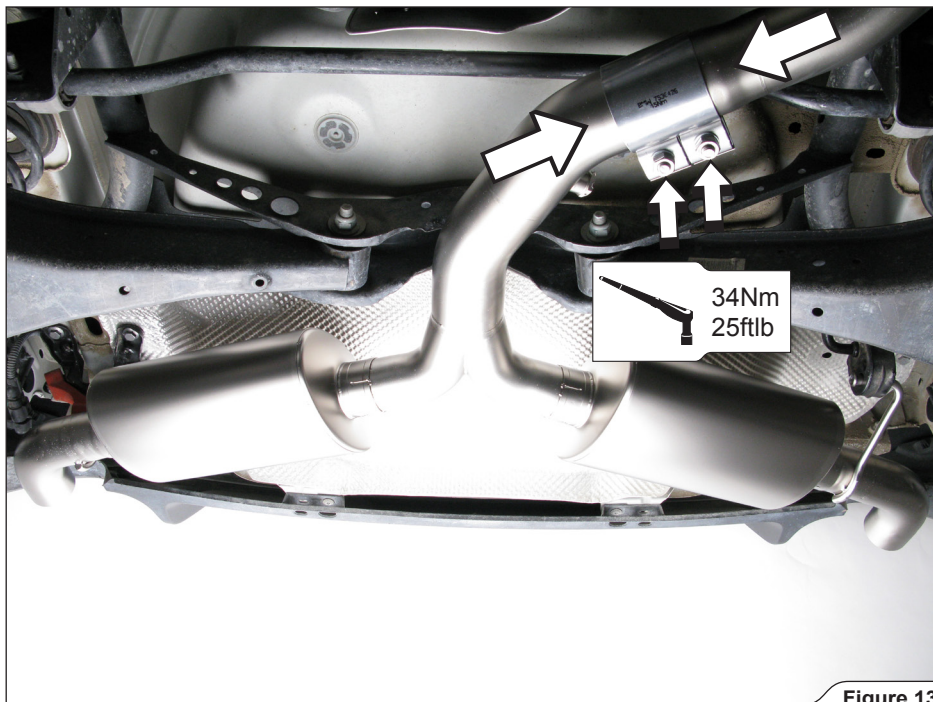

Figure 13
6. **For Slip-On and optional Link-Pipe:** push the Akrapovič muffler pipe and Akrapovič (or stock) link pipe together, center the double clamp on the middle of the pipes' joint and tighten the clamp to the specified torque (**Figure 13**).